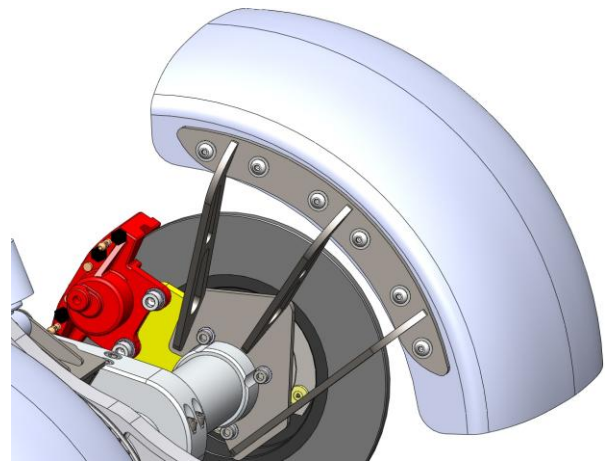

Figure 12
- e. Attach fenders to brackets using the supplied hardware. Torque to 17 lb. ft. Figure 12 and 13